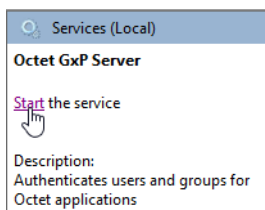

Figure B-14: Start the service
6. Start the Octet® GxP Server Windows Service: Return to the Services window. Select Octet® GxP Server in the list of services and choose **Start** the service (Figure B-14). Confirm that the service status changes to Running.